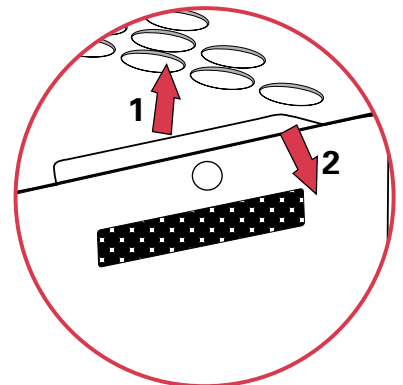

Fig.4
- A. To access the ball chamber, lift the rear door until it is able to rotate downward and lower the door as shown in Fig. 4.